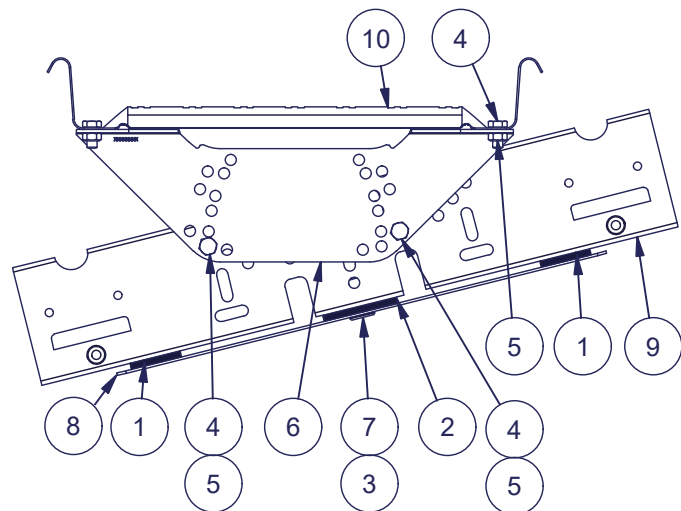

figure 2
Install the mounting plate for waterproofing membrane roof (8) according to the mounting plate installation instruction as required by the waterproofing membrane in question. Place EPDM sealant strip (1) or alternatively Pisko 2+1 sealants (2/fastener) onto the bottom of the Pisko MultiFast fastener (figure 2).
Inclination adjustment plates (6) are attached to the MultiFast fasteners with two M8x16 mm hexagon bolts and M8 hexagon nuts. Inclination adjustment plate is used to adjust the roof walkway horizontally (0° - 14°). Attach the roof walkway to the inclination adjustment plate by using two M8x16 hexagon bolts and M8 hexagon nuts (figure 2).